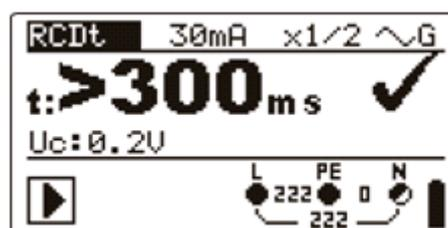

Figure 5.16: Example of trip-out time measurement results
- ❑ **Connect** test leads to the item to be tested (see figure 5.16).
- ❑ **Connect** test leads to the item to be tested (see *figure 5.16*).
<ul style="list-style-type: none"> □ Select the RCD function using the function selector switch. □ Set sub-function AUTO. □ Set test parameters (if necessary). □ Connect test cable to the instrument. □ Connect test leads to the item to be tested (see figure 5.16). □ Press the TEST key to perform the test. 	Start of test